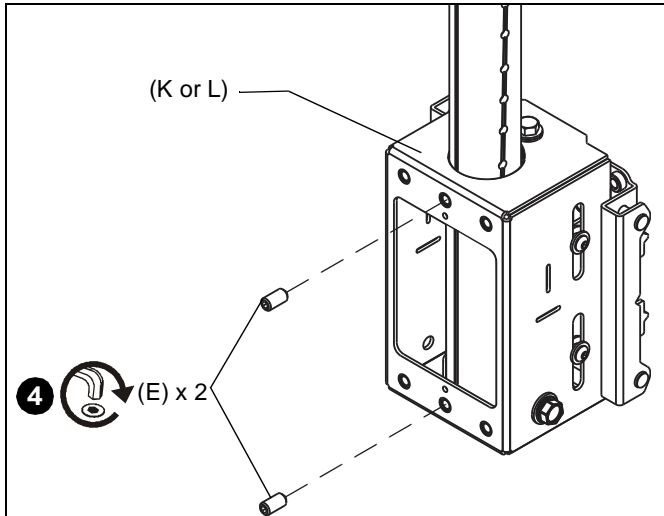

Figure 4
4. Install and tighten two 5/16" set screws (E) against column. (See Figure 4)